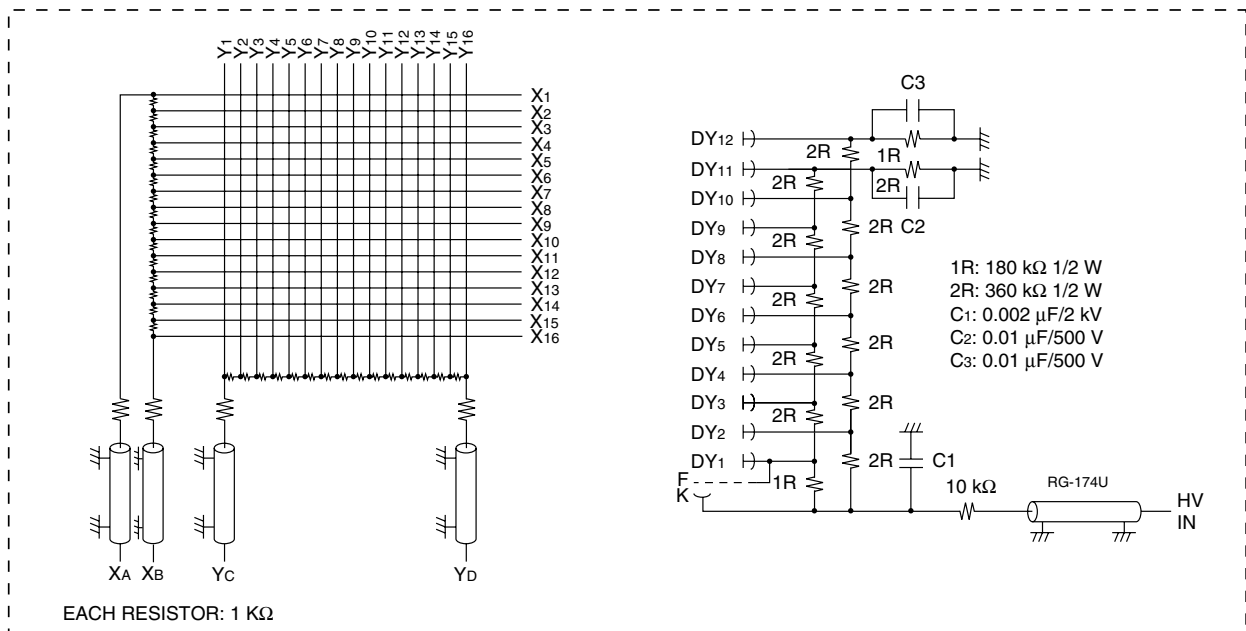

Figure 11: R2486-02
3. R2486-02: Provided with high-voltage divider circuit and resistive chains for signal processing, simplifying connection to external devices. (Fig. 11)